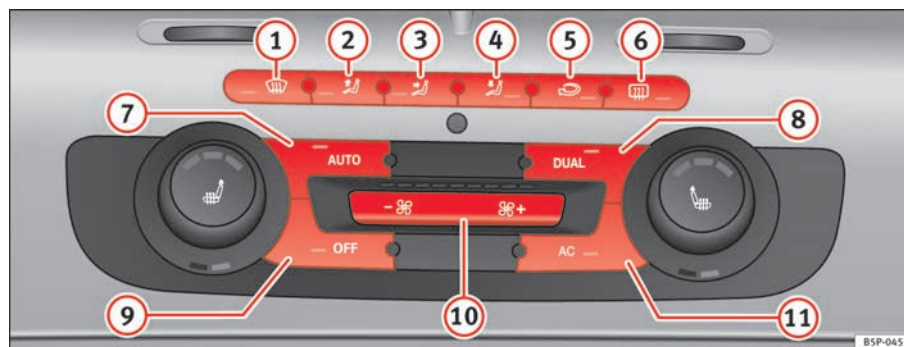

Fig. 129 On the dash panel: 2C Climatronic controls
- Turn the temperature control knobs ⇒ fig. 129 ⑨ or ⑭ in order to adjust the temperature on the left hand side or the right hand side respectively.
- Press the  ⇒ page 157, fig. 129 button. “AUTO High” is shown on the radio display (high fan speed).
- Press the  button again ⇒ page 157, fig. 129. “AUTO Low” is shown on the radio display (low fan speed).